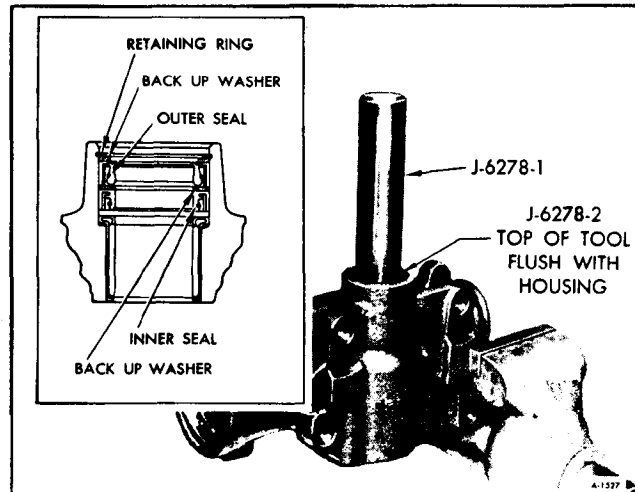

Figure 45-Installing Pitman Shaft Seals
b. Drive the seals into the housing until the top of Adapter J-6278-2 is flush with the housing (figure 45).
d. Reinsert Tool J-6278 with Adapter J-6278-2 and continue driving the seals until the retaining ring seats in its groove (Refer to inset, figure 45), then remove the tool and adapter.